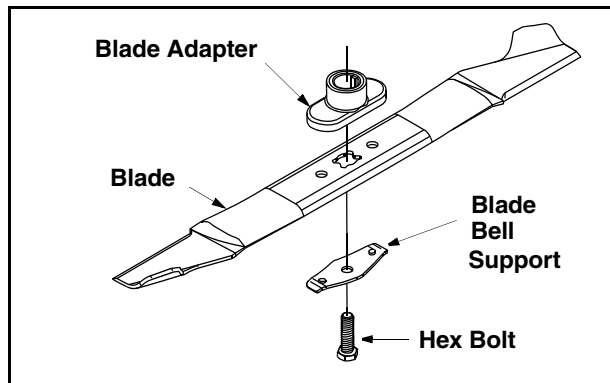

Figure 12
- Remove the bolt and blade bell support which hold the blade and adapter to the engine crankshaft. See Figure 12. Remove the blade and adapter from the crankshaft.
- Install the blade adapter on the crankshaft with the “star” away from the engine. Refer to Figure 12. Place the blade with the side marked bottom (or with part number) facing away from the adapter.